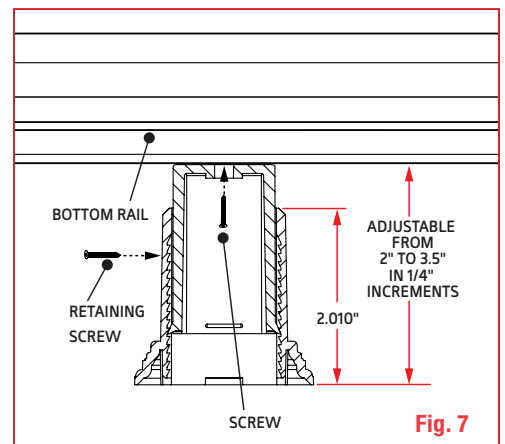

Fig. 7
**8** Pull down on the bottom portion of the Crush Block until it sits flush with the deck surface. Secure in position by installing the supplied retaining screw to lock both pieces together to prevent vertical movement. Install the color-matched snap cap into the side of the Crush Block to cover the retaining screw head. (Fig. 7)
- 10 Remove the brackets from the rail. Tilt the rail outward from the post slightly to expose the face of the post. Reposition the top rail brackets at the marked locations on each post and install with screws provided in the Marquee Stair Bracket Kit. (Fig. 7) Use 2" screws when mounting to a wood post or the 1-1/4" screws when mounting to a Marquee Post Mount. Repeat on post at the opposite end of the rail section.